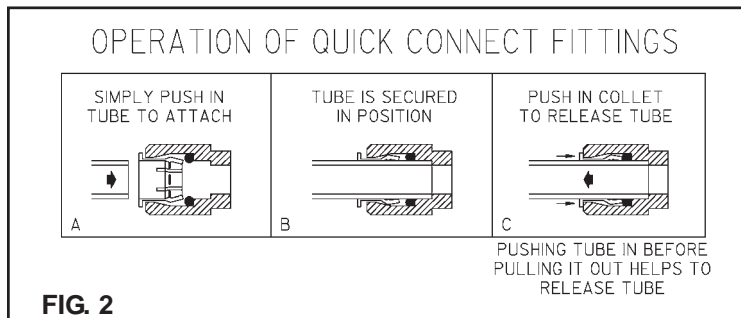

FIG. 2
7. Connect fountain to supply line with a shut-off valve and install a 3/8" unplated copper water line between the valve and the cooler. Remove any burrs from outside of water line. Push the tubes straight into the fittings until they reach a positive stop, approximately 3/4" (See Fig. 2). DO NOT SOLDER TUBES INSERTED INTO PLASTIC FITTINGS AS DAMAGE TO THE O-RINGS MAY RESULT.
Fountain is provided with lead-free connectors which utilize an o-ring water seal. To remove tubing from the fitting, relieve water pressure, push in on the gray collar while pulling on the tubing. (see Fig.2) To insert tubing, push tube straight into fitting until it reaches a positive stop, approximately 3/4".